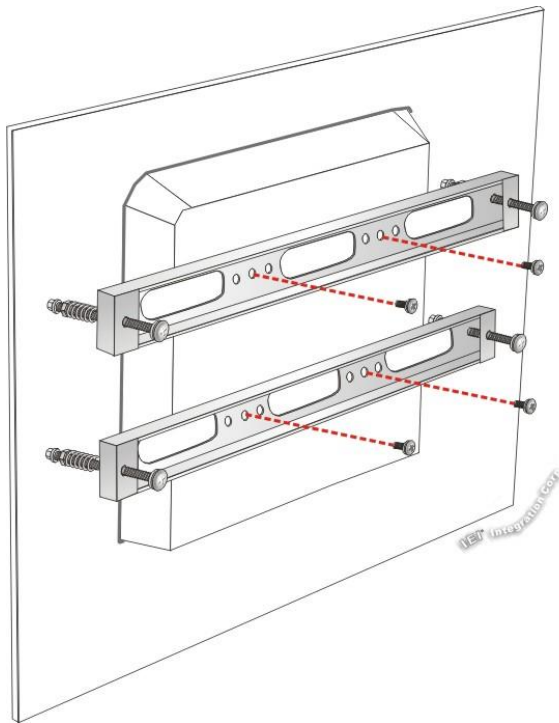

Figure 3-11: Securing Panel Mounting Brackets
Step 7: Secure the two panel mounting brackets to the rear of the panel PC by inserting the four retention screws into the VESA mounting holes and tightening them (Figure 3-11).